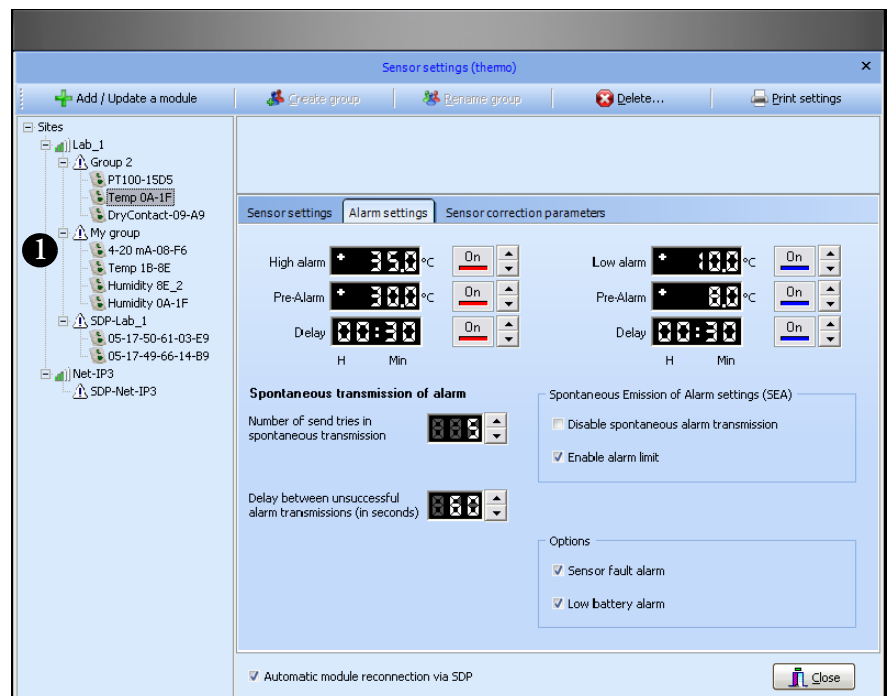

Figure 70. Alarm settings tab in sensor settings except dry contact.
2. Choose a sensor from the tree structure on the left-hand panel (#1 in Figure 70), and then click on the Alarm settings tab.